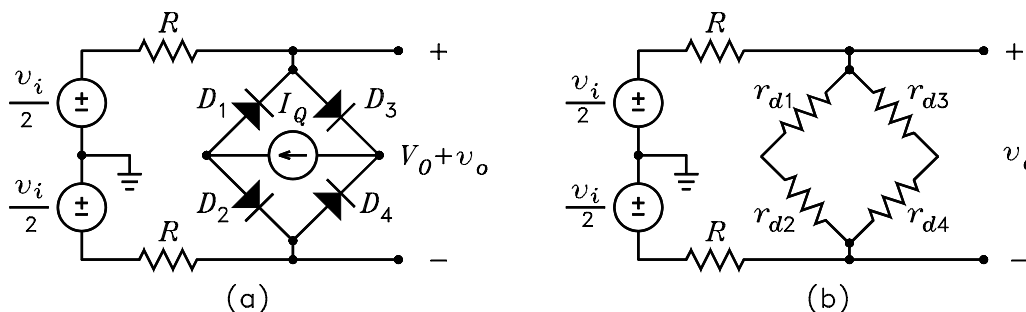

Figure 4: (a) Diode attenuator circuit. (b) Small-signal model.
**Example 3** Figure 4(a) shows a diode attenuator circuit. The input voltage  $v_i$  is a small-signal differential voltage represented by two series sources with the common terminal grounded. The current  $I_Q$  is a dc control current. Solve for the small-signal gain  $v_o/v_i$ . Assume the diodes are identical,  $n = 2$ , and  $V_T = 0.025$  V.
current  $I_Q/2$ . It follows the dc voltages across the diodes cancel in calculating  $V_O$  so that  $V_O = 0$ . The small-signal resistance of each diode is  $r_d = 2nV_T/I_Q = 0.1/I_Q$ . The small-signal circuit is shown in Fig. 4(b). The current  $I_Q$  does not appear in this circuit because it is a dc source which becomes an open circuit when zeroed. It follows by voltage division that